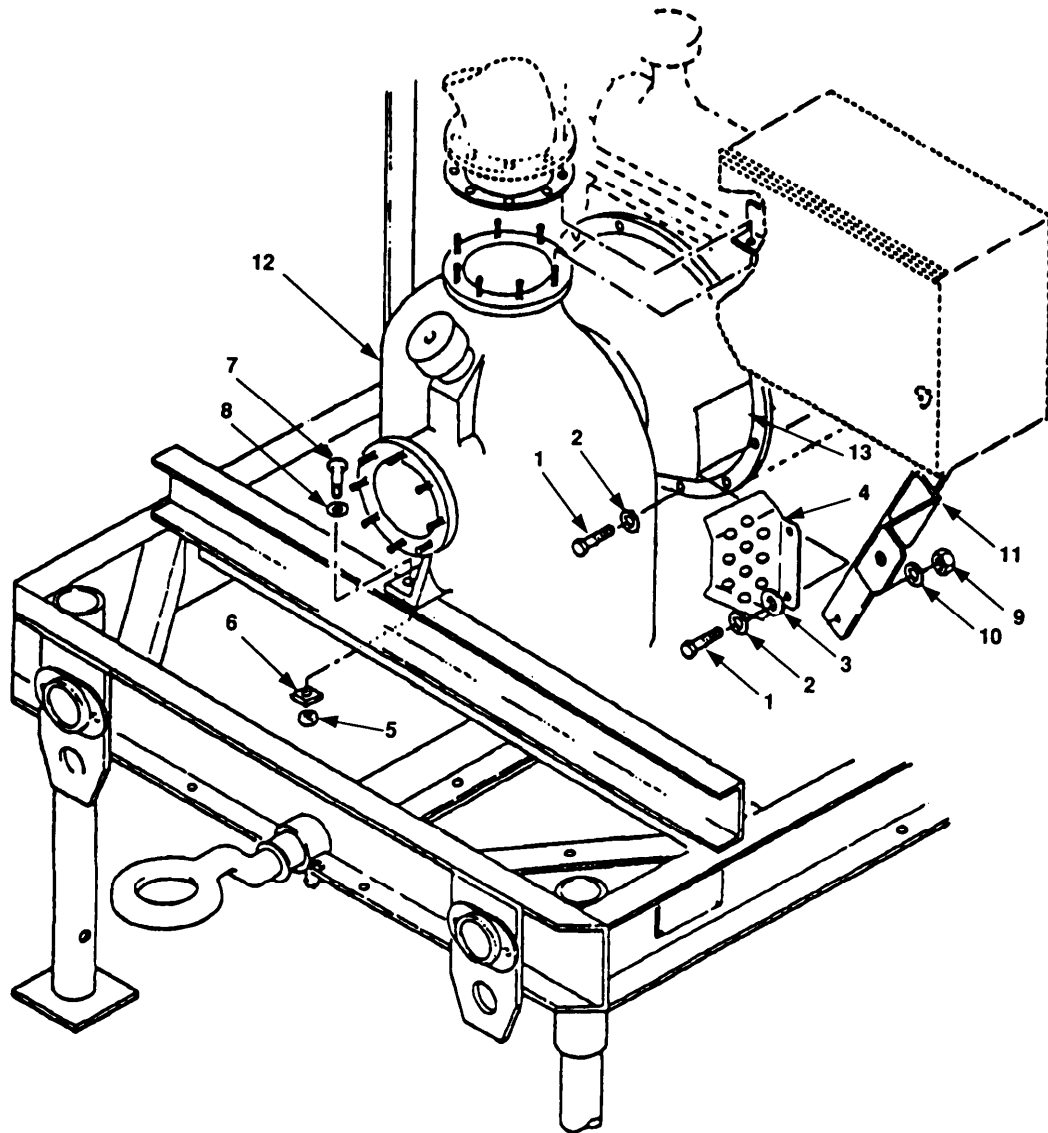

Figure 5-11. Centrifugal Pump Maintenance.
- a. Remove twelve bolts (figure 5-11, 1), lockwashers (2), four washers (3), and two intermediate bracket covers (4).
- b. Remove two lock nuts (5), beveled washers (6), bolts (7), and washers (8).
- c. Remove nut (9) and lockwasher (10) and position bracket (11) clear of centrifugal pump (12).